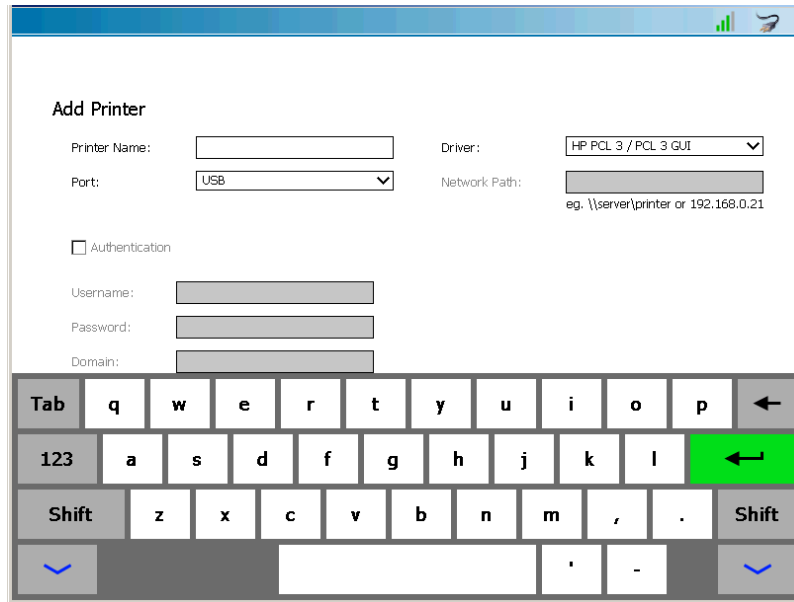

Figure 5.35 Keyboard
- 15 (optional) If you could not connect to the printer, touch **Change Settings** and check the information you entered on the Add Printer screen (Figure 5.35).